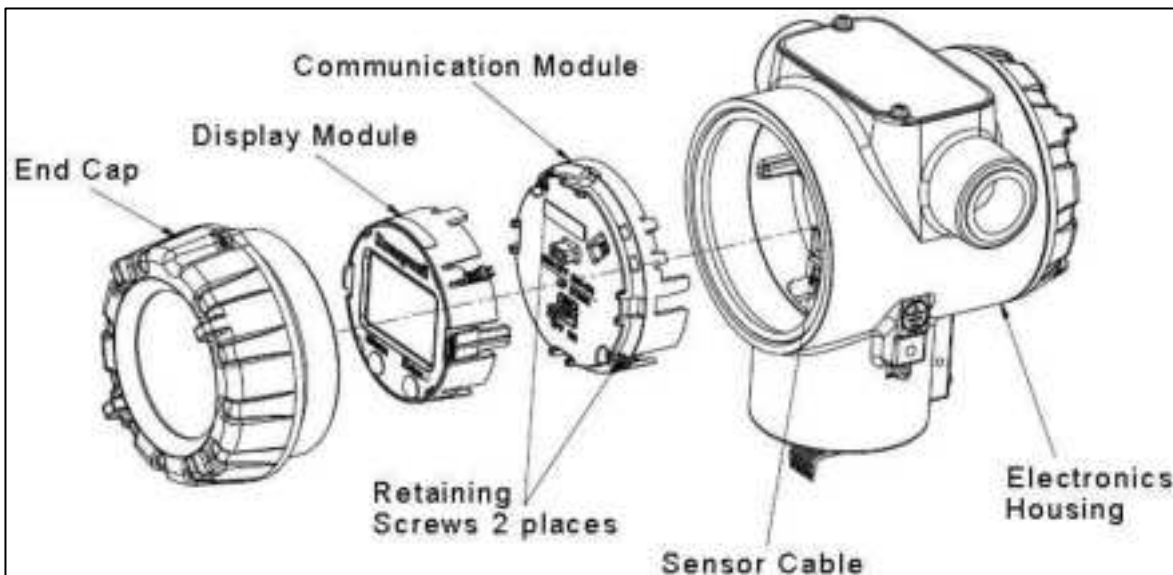

Figure 62 – ST 700 Basic Transmitter - PWA Replacement
4. Loosen the nuts in the sequence shown in Figure 62
12. Using a torque wrench, gradually tighten the nuts in the sequence shown in Figure 62